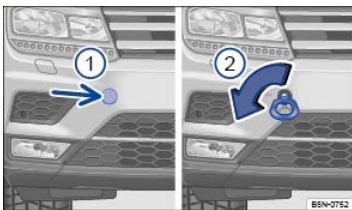

Fig. 177 In the front bumper on the right side: Installing the towing eye.
There is a threaded hole for the towing eye in the right front bumper behind a cover ⇒ Fig. 177.
- Push on the left side of the cover ⇒ Fig. 177 (arrow) so that it pops out.
- Screw the towing eye **counterclockwise** into the threaded hole as far as it will go (arrow) ⇒ Fig. 177 ⇒ . Use the lug wrench to turn and tighten the towing eye.